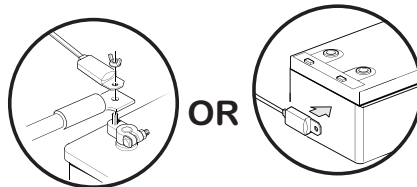

Figure 2-14 Connecting the BTS cable to the battery
2. Connect the BTS connector either by bolting it directly to a battery terminal along with the other connections or by removing the sticker on the bottom of the BTS connector and sticking it directly to a surface on the battery. The two methods are shown in Figure 2-14.